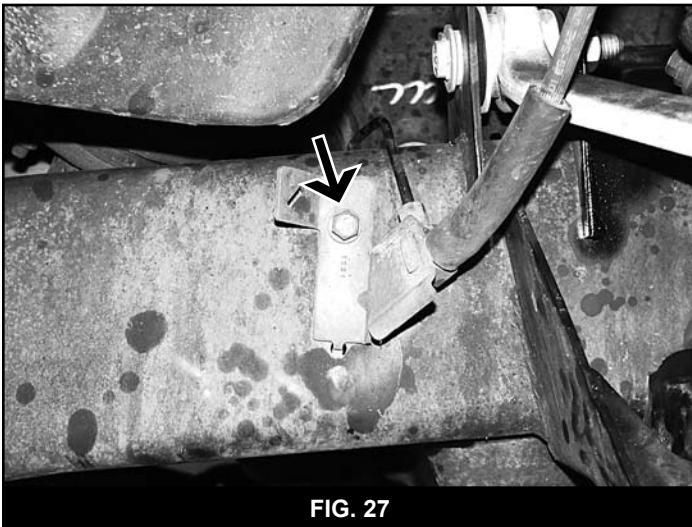
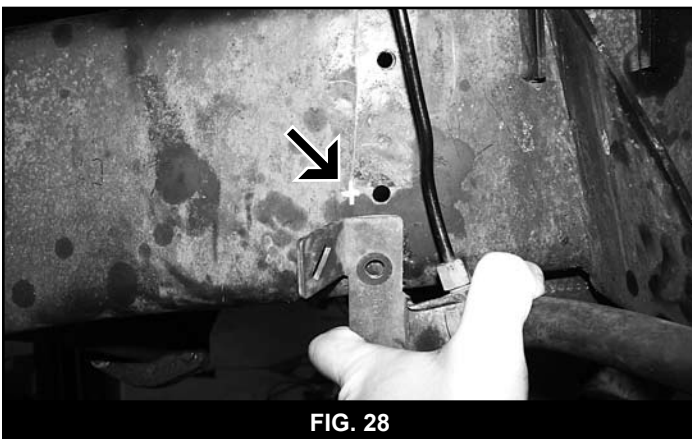

FIG. 27
FIG. 28
58. Passenger's side brake line: Remove the bolt retaining the line bracket to the frame (Fig 27). Carefully reform the hard line so that the mounting bracket can be lowered approximately 3" (remove the hard line from the retaining clip on the inside of the frame rail). Measure back 1/2" from the lower existing hole in the frame and drill a 17/64" hole (Fig 28). Attach the brake line to the new hole with the provided 5/16" x 1-1/4" self-tapping bolt (BP #618). Ensure that the hard line is properly routed.